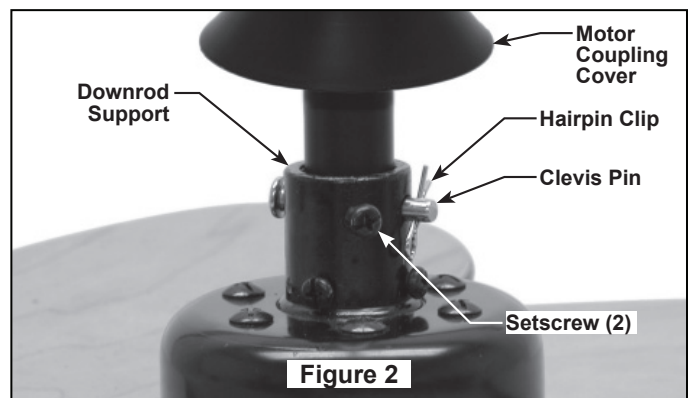

Figure 2
5. Loosen the two setscrews in the Downrod Support. Align the Clevis Pin holes in the Downrod with the holes in the Downrod Support. Install the Clevis Pin and secure with the Hairpin Clip. (Figure 2) Be sure to push the straight leg of the hairpin clip through the hole near the end of the clevis pin until the curved portion of the hairpin clip snaps around the clevis pin. The hairpin clip must be properly installed to prevent the clevis pin from working loose. Pull on the Downrod to make sure the clevis pin is properly installed. (Figure 2)
6. Route wires through opening in Motor Coupling Cover. Position Motor Coupling Cover on fan shown with open side facing down. (Figure 2)
9. While pulling up on the hanger ball, securely tighten the two 3/16-24 x 3/8" setscrews in the downrod support. (Figure 2)
1. Using the $\frac{3}{8}$ " x 2" lag bolt and flat washer, attach safety cable to ceiling joist or wood structural member. The lag bolt will pass through the flat washer, safety cable loop, the junction box and into the building structure (Figure 2). You will first drill a $\frac{1}{4}$ " pilot hole into the building structure to prevent splitting or cracking.
NOTE: Ceiling support cable cannot be secured to junction box only, it must be directly secured to ceiling joist or structural member using the $\frac{3}{8}$ " x 2" lag bolt and flat washer. (Figure 2).